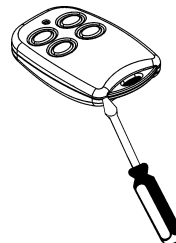

Figure B.12: Opening the EL-2614's Casing
1. Insert a small screwdriver into the pry-off slot – see *Figure B.12*. Carefully twist the screwdriver to separate the front and back of the casing.